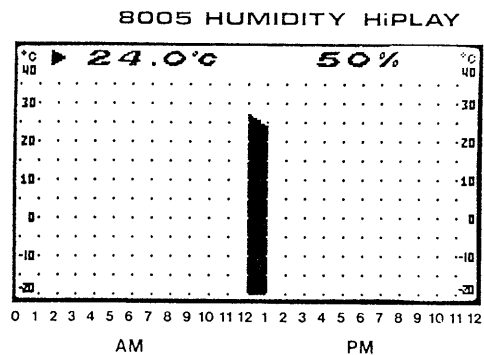
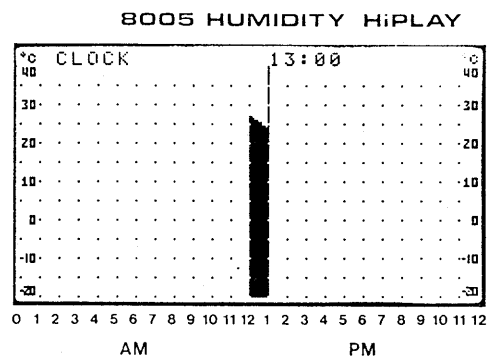
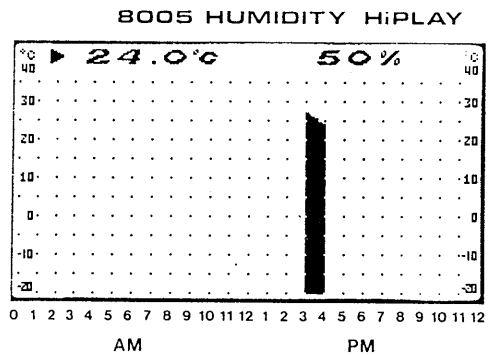
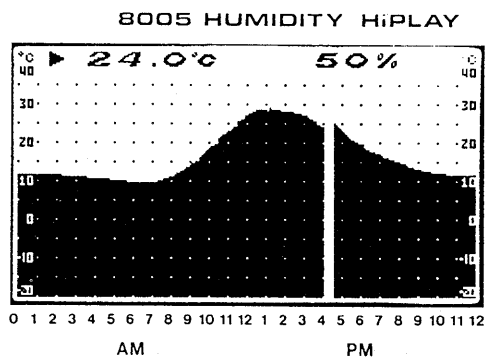

Fig 4
Fig 5
Fig 6
Fig 7
- (1) The temperature and humidity readings appear on the liquid crystal display panel. The range of the temperature display, from -20 to $+40$ °C, or the humidity range, from 0 to 100%, appears at both sides of the display. The time is shown along the bottom of the display, covering a 24-hour interval from midnight to midnight.
- (2) Measurement starts when you press the temperature or humidity button after inserting the batteries. If you first press the temperature button shown in Figure 1, the current temperature reading appears as a vertical bar on the graph. The measurement process is then repeated every six minutes, and successive readings are stored in internal memory. The room temperature is indicated by the display of the width corresponding to the time from starting measurement to the current time. Thus the example shown in Figure 4 shows the display after about one hour of operation. If the graph display does not appear, or is indistinct, by pressing the temperature key, adjust the contrast by gently turning the control on the right hand side of the unit (see Figure 1) until the display is clear.
- (3) If the position of the display as shown in Figure 4 does not correspond with the current time, press the temperature button, and then the clock button. This displays the time, both numerically and with a vertical cursor (see Figure 5). Pressing the clock advance button (see Figure 1) moves the graph slowly to the right, and pressing the clock retard button moves the graph slowly to the left. When the time is set correctly, press the clock button again, to change to the display shown in Figure 6. The example shown in Figures 4 and 6 has the graph moved from an incorrect time of 1 pm to 4 pm.
- (4) Next press the humidity button to display the humidity graph aligned correctly with the current time.
- (5) When you release the temperature or humidity button, the display remains for about ten seconds before disappearing.
- (6) The unit has a quartz clock, so the timekeeping is accurate.
- (7) As shown in Figure 7, the temperature graph continuously shows the readings for the previous 24 hours which are retained in memory, and the readings before the previous 24 hours are erased from the internal memory automatically. There is a white gap corresponding to 30 minutes before the current time to indicate clearly the break for the previous day's recording.
- (8) Accurate values of the current readings of temperature and humidity also appear at the top of the display in numerical form.
- (9) The measurement ranges for temperature and humidity are from -20 to $+40$ °C, and from 0 to 90% humidity, but the operating ranges for the unit are from 0 to 40 °C, and from 0 to 80% humidity. So, for measurements outside this operating range, use the optional extension cable to install the temperature/humidity sensor remotely from the unit.